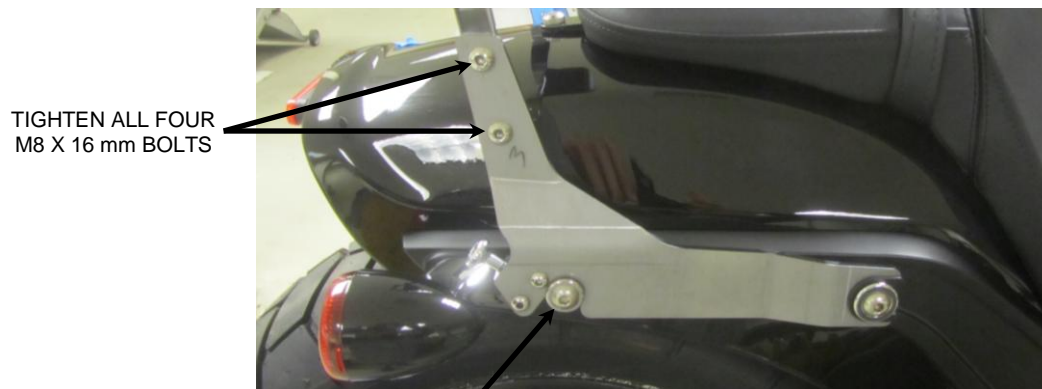

FIGURE 5
15. Pull backward on both detachable latch knobs and then push downward on the backrest to allow the backrest to sit completely on the rear mounting bushings. Then release the detachable latch knob to fully engage the latch pin underneath the mounting kit bushing. See **FIGURE 5**.
16. Always check to make sure both detachable latch pins are fully engaged on the bottom of the mounting kit bushing. Failure to fully engage the detachable latch pin could cause the backrest to come loose while riding. See **FIGURE 5**.
17. Pull backward on the top of the sissy bar and then tighten all four M8 X 16 mm bolts. See **FIGURE 5**.